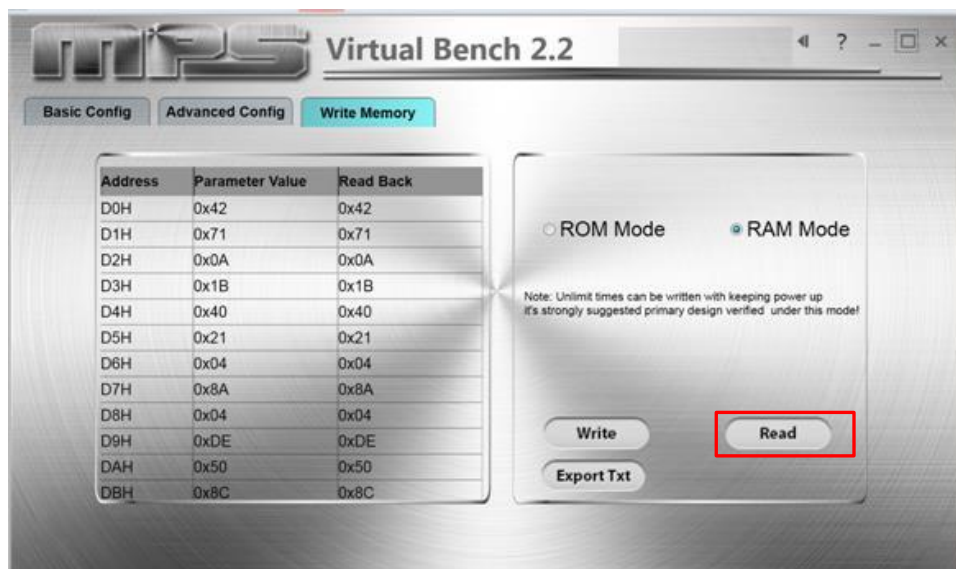
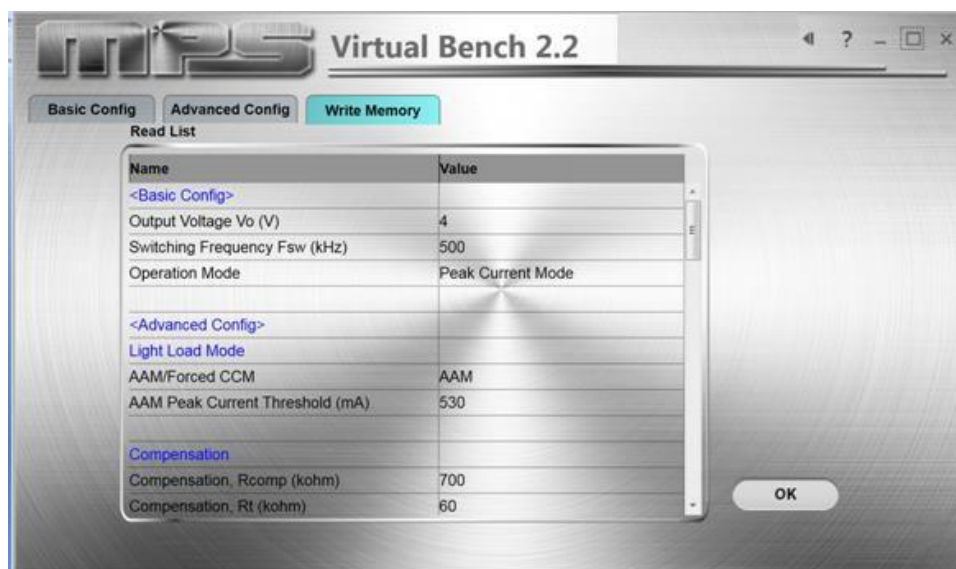

Figure 12: Read Version
Figure 13: Read Back Data
- Click the "Read" button to read back the values (see Figure 12 and Figure 13).